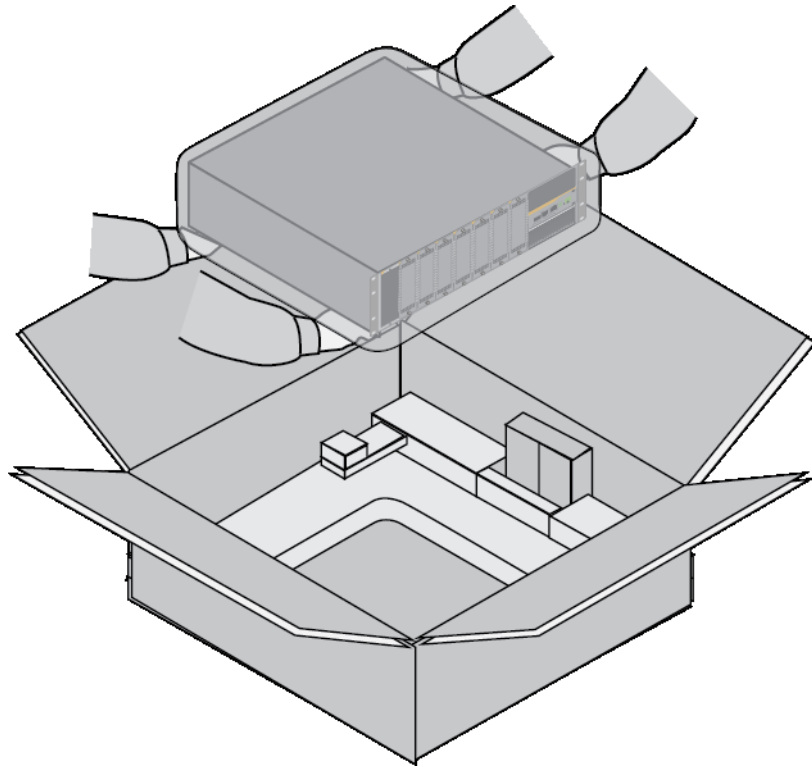

Figure 17. Lifting the Switch from the Shipping Box
1. Lift the switch from the shipping box and place it on a level, secure table. Refer to Figure 17 on page 55.